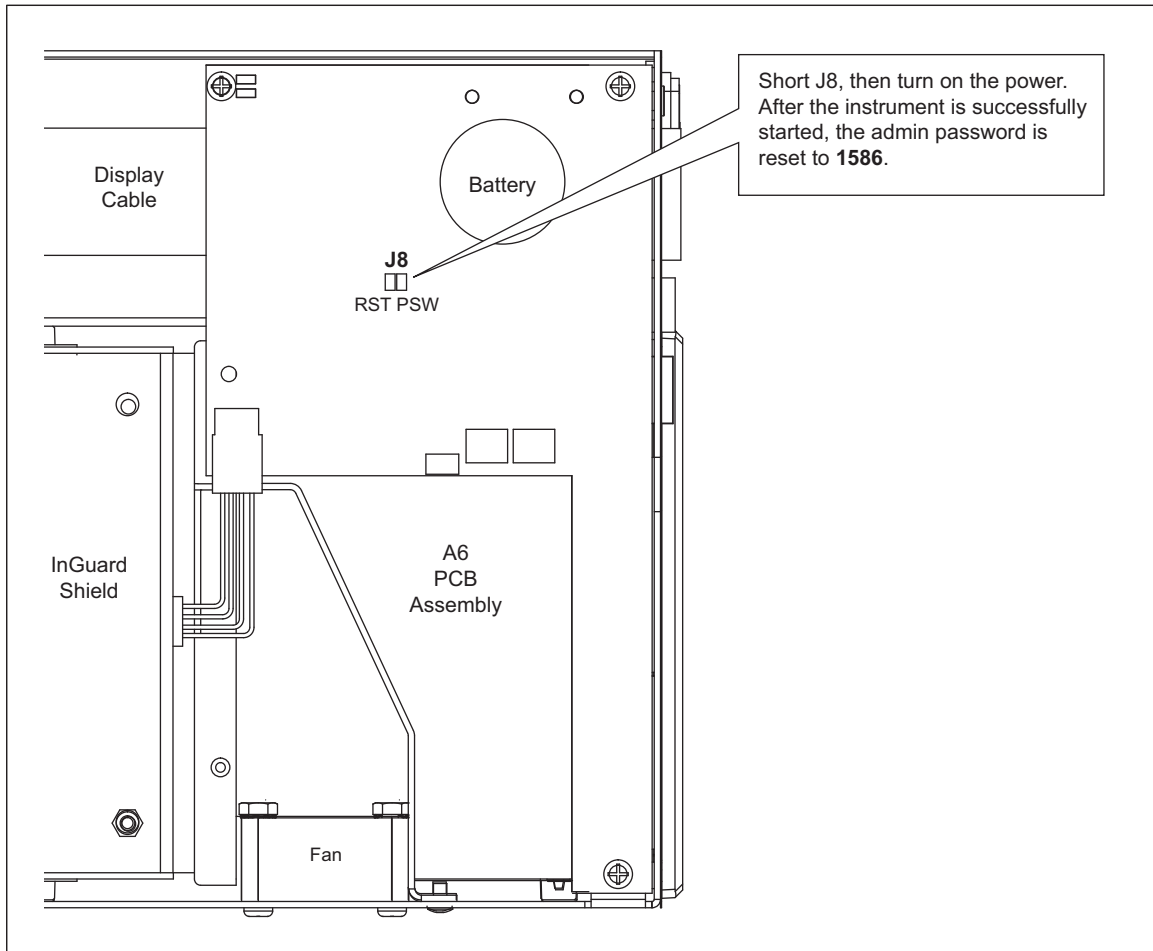

Figure 8. Password Reset Jumper
2. Connect a jumper across J8, as shown in Figure 8.